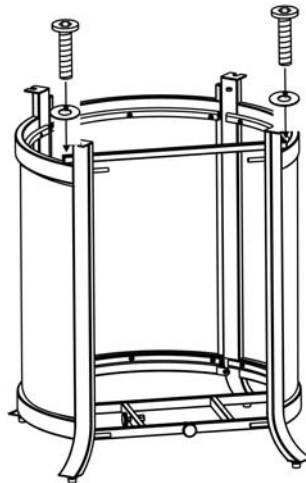

Figure 4
4. Attach the middle support bar to the table legs by using two 1/4"x30 mm bolts and Ø6.5x1.0 mm washers as shown in Figure 4. Guide the bolts through the holes in the middle support bar, into the pre-drilled holes in the table legs. **Hand tighten only.**